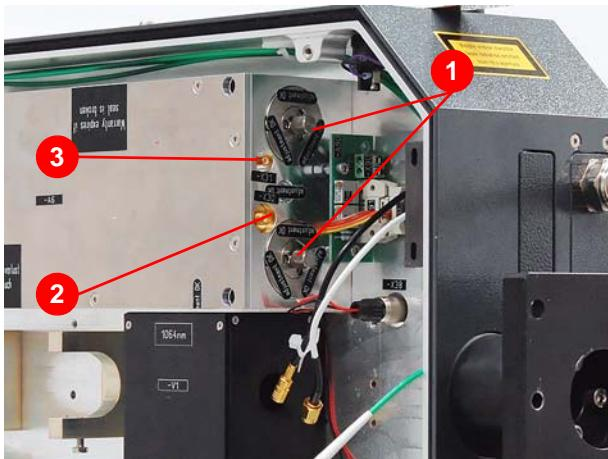

Figure 8.36 Disconnecting the resonator module
22. Attach dust protection caps to the glass fiber(s) and the connections on the resonator module (1) (Figure 8.36).
24. Disconnect the SMA plug of the HF line (2) (Figure 8.36) and the SMB plug of the Q-Switch interlock line (3).